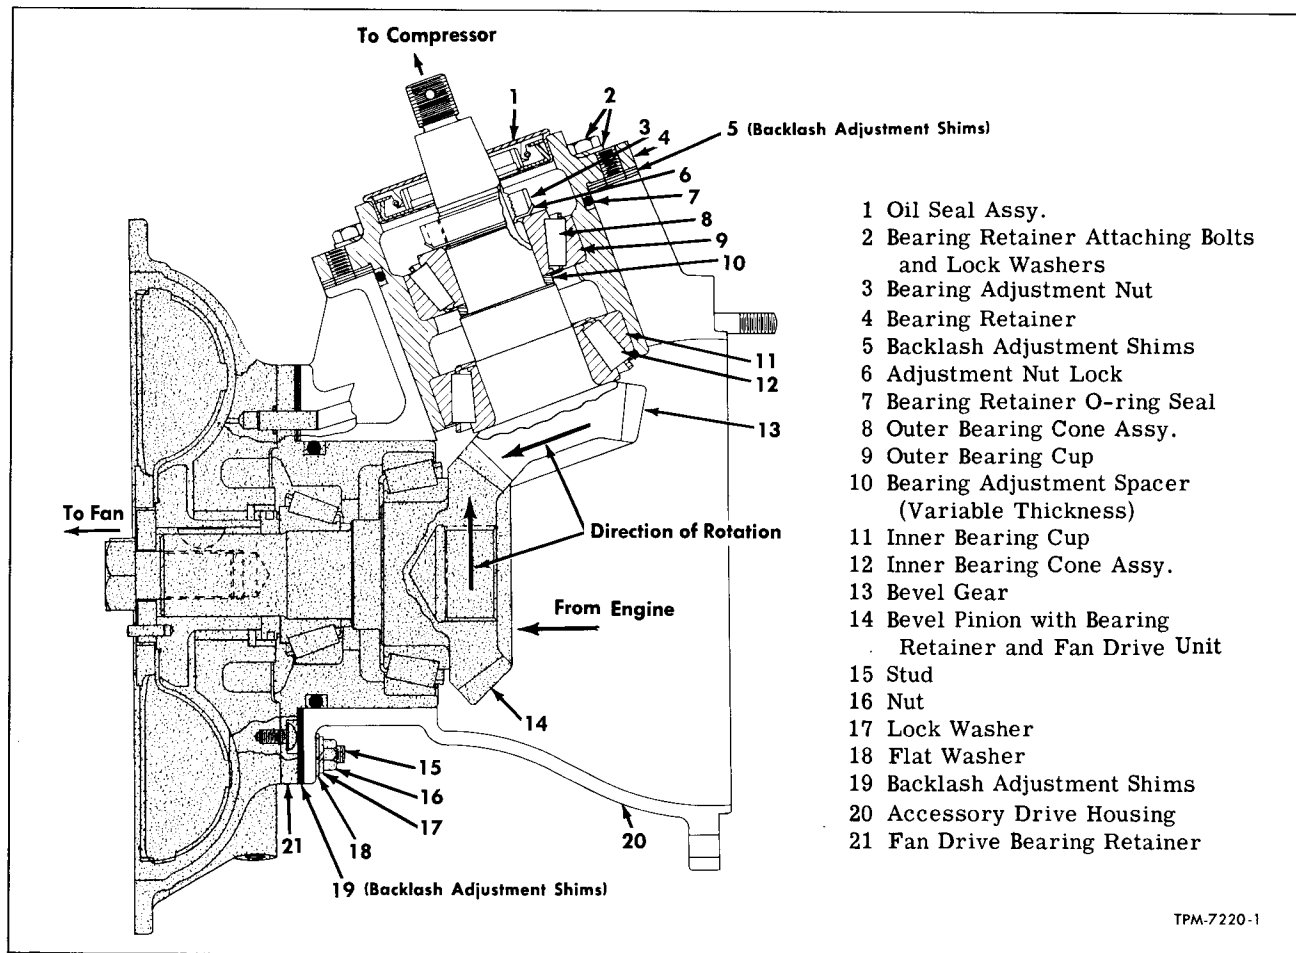

Figure 111—Compressor Accessory Drive
The accessory drive, as used to transfer power of coach engine to operate the air conditioning refrigerant compressor, consists of a bevel drive gear and pinion enclosed within engine fan drive housing, as shown in figure 93. Sectional view of gears installed in housing is shown in figure 111.
Referring to figure 111, engine torque is transferred from fan drive pinion (14) to the bevel gear (13) at a ratio of 1.388 to 1 on all models except model SDM5301 with 8-cylinder engine which has a ratio of 1.588 to 1.
Bevel gear (13, fig. 111) is supported in bearing retainer (4, fig. 111) on two taper roller bearings which are lubricated by engine oil pressure
through internal drilled passages. Bearing retainers (4 and 21, fig. 111) of both gears can be .001" press fit or .001" loose fit in opening of accessory drive housing (20, fig. 111).
Adjustment of gear backlash and tooth contact is accomplished by removing or adding shims (5 and 19, fig. 111) which relocate position of one gear in relation to the other. Instructions for making adjustments are explained later under "Bevel Gear and Pinion Adjustments."
NOTE: Key numbers in text refer to figure 111.
NOTE: Key numbers in text refer to figure 111. Coat all parts in clean SAE 30 engine lubricant when assembling unit.
NOTE: Key numbers in text refer to figure 111. To facilitate installation, the gear and retainer unit can be cooled and the accessory drive housing can be heated.
4. Turn bevel pinion in direction of rotation (fig. 111) and observe tooth contact impression on drive side of gear teeth. Contact should start at toe of tooth (view B, fig. 116) and extend back about 80% of tooth length toward heel. Contact should be distributed evenly over flank and face of tooth, indicating center of contact on pitch line. Refer to views "A" and "B," figure 116.